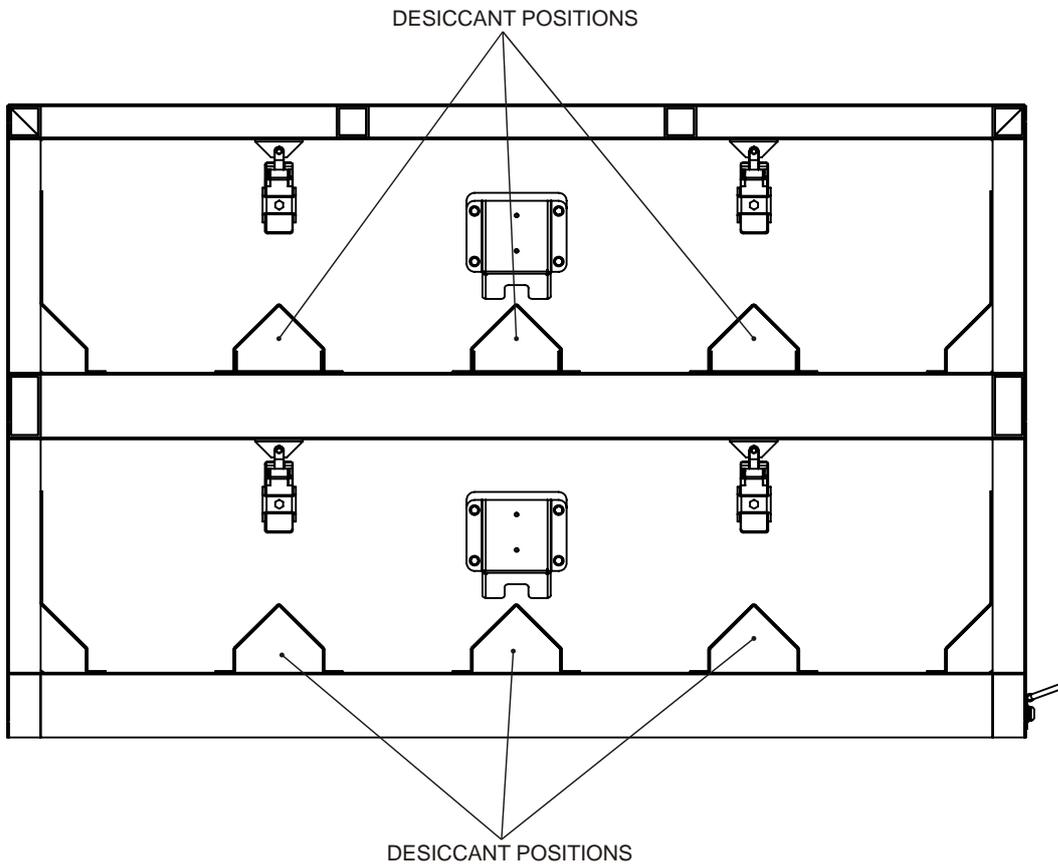

Figure 8 Missile Stowage Desiccant Position
- b. Remove existing desiccant containers from stowage (Figure 8).